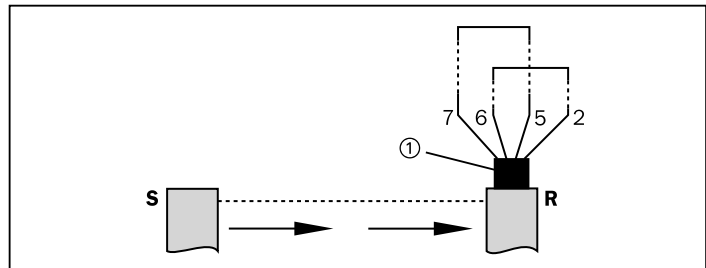

Fig. 5-13: C 2000/M 2000 with deactivated restart inhibit
**Note** If the photoelectric switch is to be operated without restart inhibit, the connections of the extension plug on the receiver must be wired in the switch cabinet in the way illustrated in Fig. 5-13. A pre-assembled plug (Order No. 6 021 238, see 11.1 Accessories) can, however, also be attached to the extension plug to enable the restart inhibit to be deactivated.